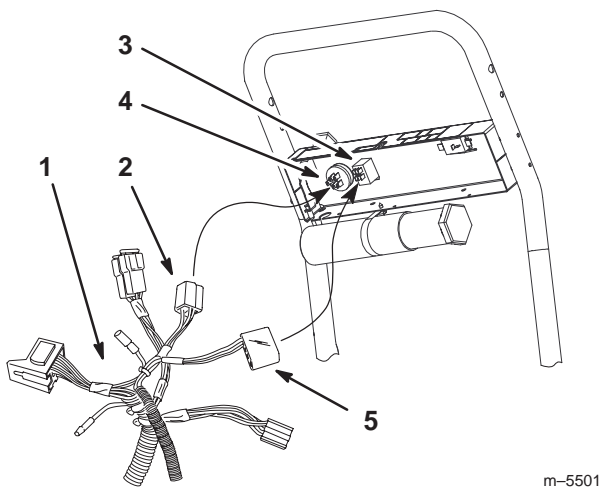

Figure 18
1. Install the wire harness ignition switch connector to new ignition switch (Fig. 18).